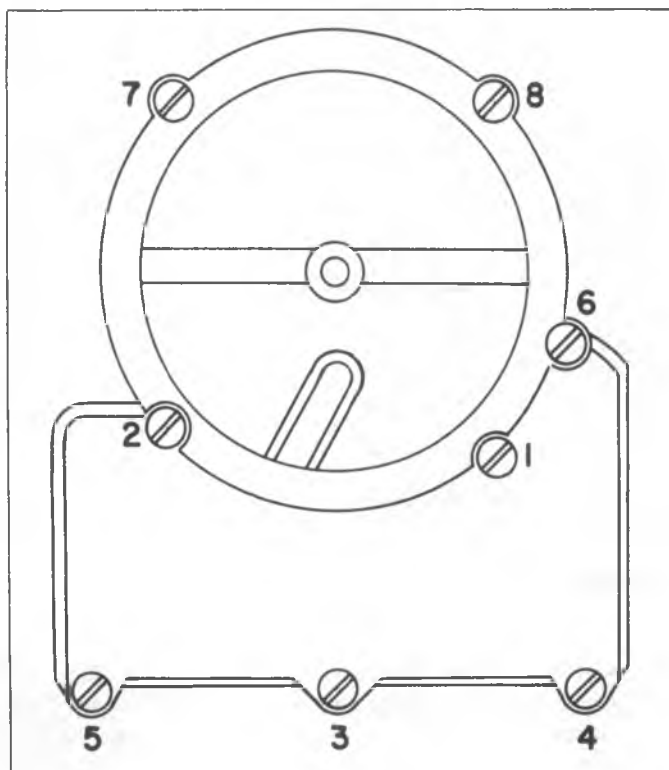

Fig. G11—Air Horn Tightening Sequence
2. Install and tighten air horn screws evenly and securely in sequence shown in Figure G11. The number one screw is the long screw.